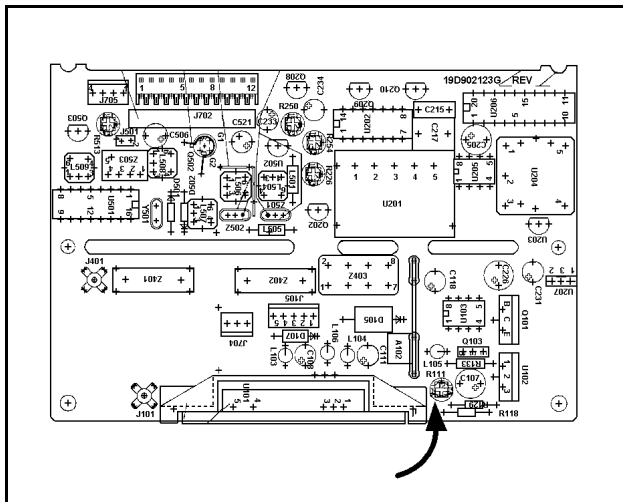

Figure 1 - Location of R111 on the RF Board
- Use an accurate and calibrated 800 MHz wattmeter or power meter with necessary attenuators to reset the transmitter output power to 11.00 watts. This is done by keying the transmitter (**FCN 01**) and adjusting R111 in the power control circuit. R111 is located on the component side of the RF Board and is shown below in figure 1. This value ensures that the radio will meet the rated power specification of 10.00 watts across the entire transmit range.